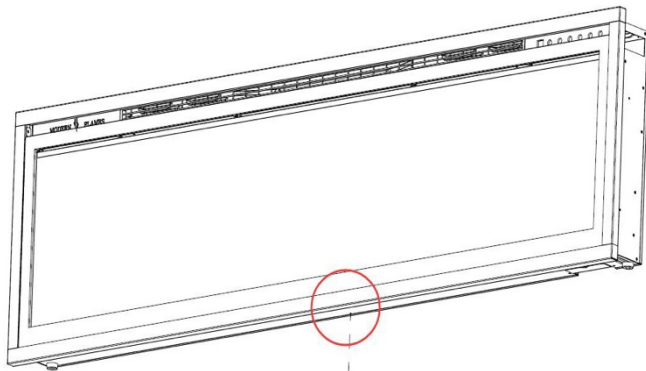

Fig 3-1
**A.** Remove the silver screw at the bottom of the appliance. (Fig 3-1). Set the screw aside.